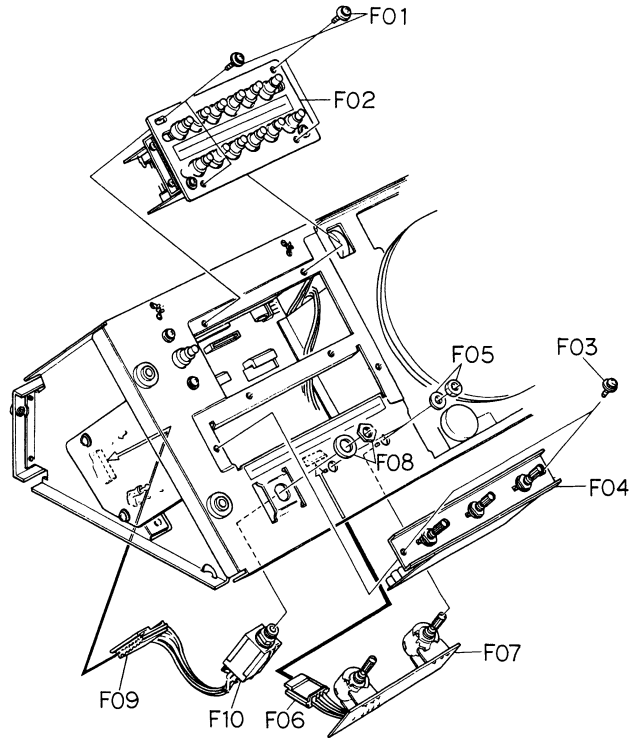

Fig. 3.2
Refer to Fig. 3.2. Remove front panel ass'y referring to above item 3.1. Remove F01 (four places), then F02 (switch ST ass'y). Remove F03 (two places), then F04 (tone P.C.B. ass'y). Remove F05 (two places) and F06 (connector), then F07 (VR P.C.B. ass'y). Remove F08 and F09 (connector), then F10 (headphone ass'y).